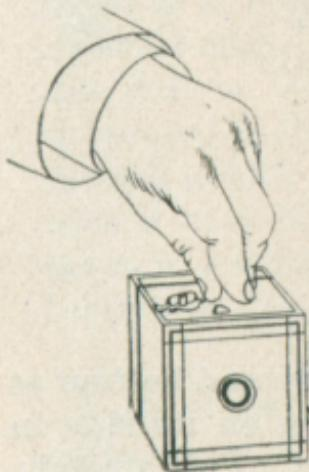

Fig. 1.
1. Take a position at a table as far as possible from any window, place the camera on the table before you and unlock by turning to right on nickel catch as shown in Fig. 1. This releases the winding key, which is now to be removed from camera.